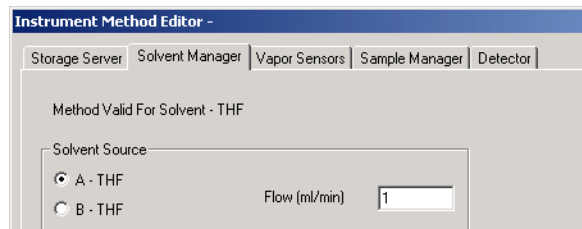

Figure 3-18 Solvent Manager Page
1. Click the Solvent Manager tab in the Instrument Method Editor dialog box (Figure 3-18).